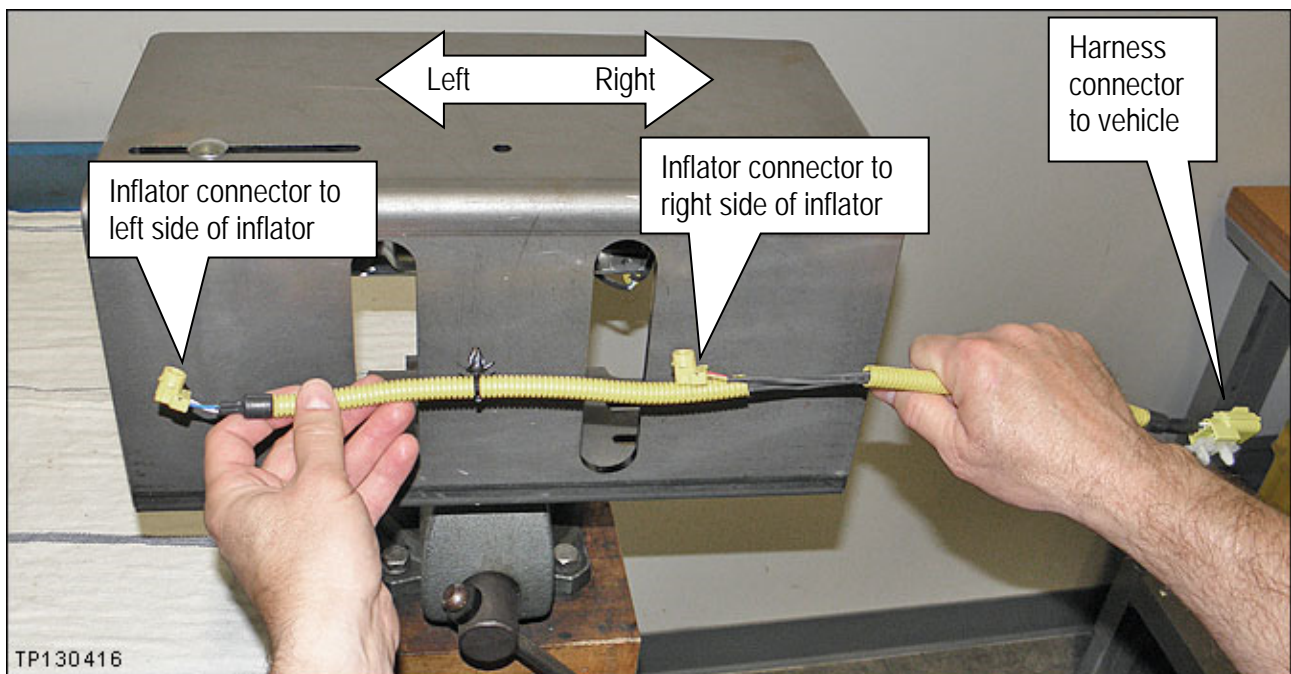

Figure 25
- Make sure to attach the connectors to the correct ends of the inflator (see Figure 25).
- Left / Right orientation is as shown in Figure 25.
- Make sure to attach the correct ends (see Figure 25 on the previous page).
- Refer to Figures 25, 26, 27, and 28.